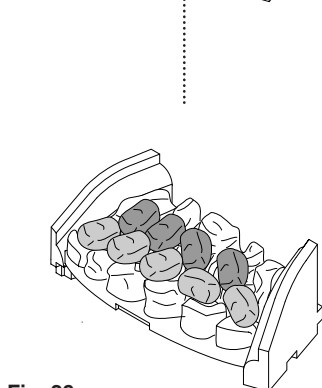

Fig. 29: Diagram showing the final arrangement of coals on the burner bracket lip.
6. Place the remaining 4 loose coals between the front loose coals and the rear coal, (flat face downward). Orientation of the coals should be as shown in order to achieve the desired flame picture (Fig. 29).